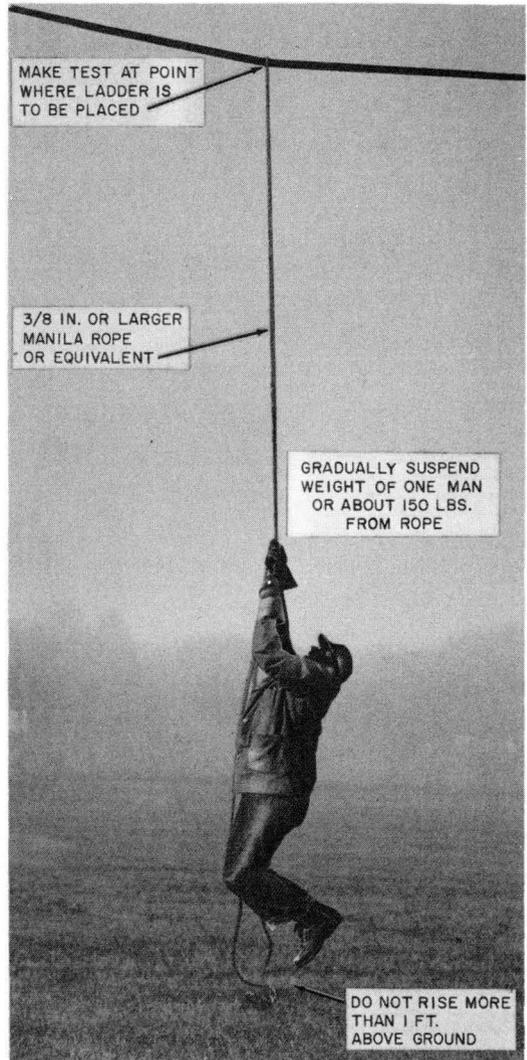

Fig. 2—Testing Strand Prior to Placing Ladder
- (1) Inspect and test the poles at each end of the span (Part 1 and 2).
- (2) Throw or place the handline (3.02) over the strand at the point where the ladder is to be placed.
- (3) The workman who will work from the ladder should grasp the two ends of the handline and gradually apply his full weight to the strand by lifting himself slowly off the ground (Fig. 2).